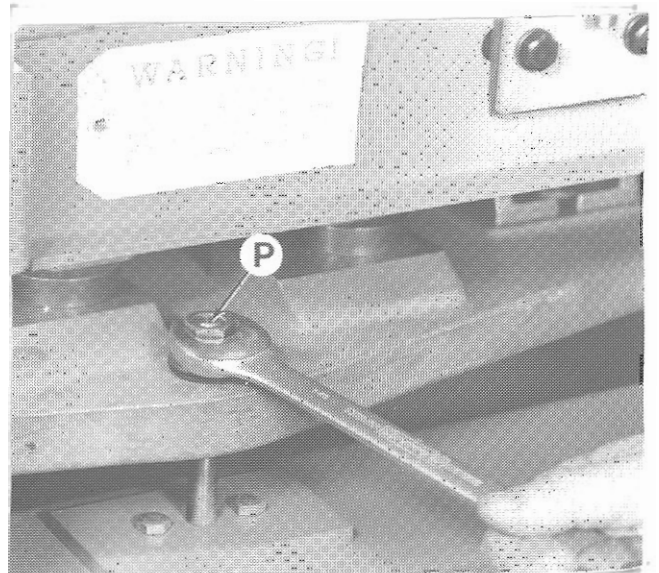

Figure 2.8 - Removing Motor Plate Nut
3. Remove nut from motor plate hold down stud "P", Figure 2.8.